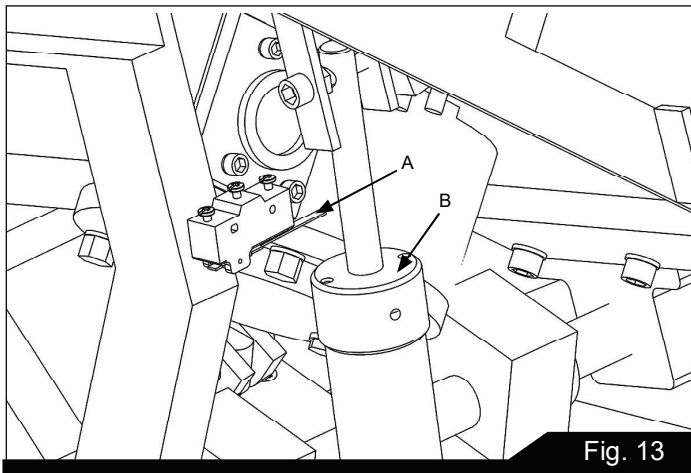

Fig. 13
The machine and any accessories which are wired into the electrical system are controlled by the start-stop buttons. The machine will automatically shut off when the cut is completed. The lever (A) Fig. 13, for the automatic shut-off contacts the top of the hydraulic cylinder (B) and shuts off the machine.
2. Turn cover (B) shown in Fig. 13 counterclockwise, then fill hydraulic oil or equivalent until it is full.